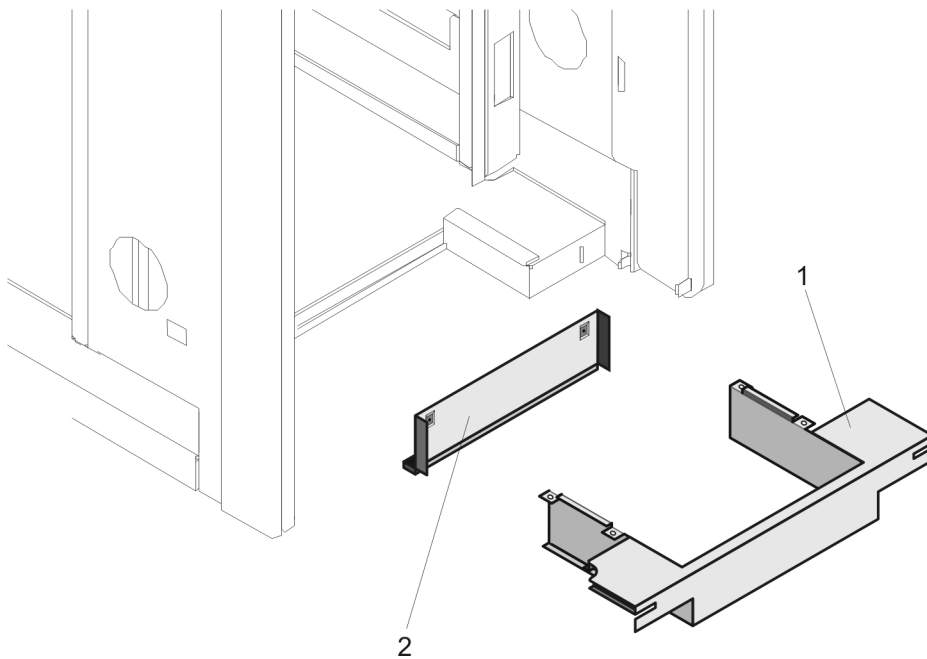

Figure 34. EMC skirt for standard 24 inch powered expansion rack FC 5792/8691 switch-only frames
- | 1. Slide the rear skirt into position in the cutout at the rear of the frame (refer to 2 in Figure 34 on page
- | 4. Slide the front skirt into position at the rear of the frame (refer to 1 in Figure 34 on page 96)